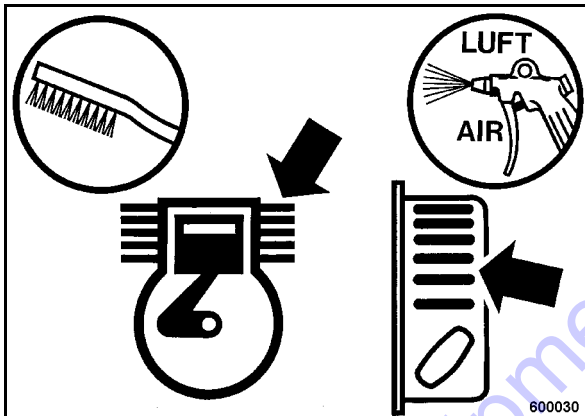

Fig. 42
- Loosen dried on dirt with a suitable brush (Fig. 42) from all cooling fins and cooling air intake openings and blow it off with compressed air.